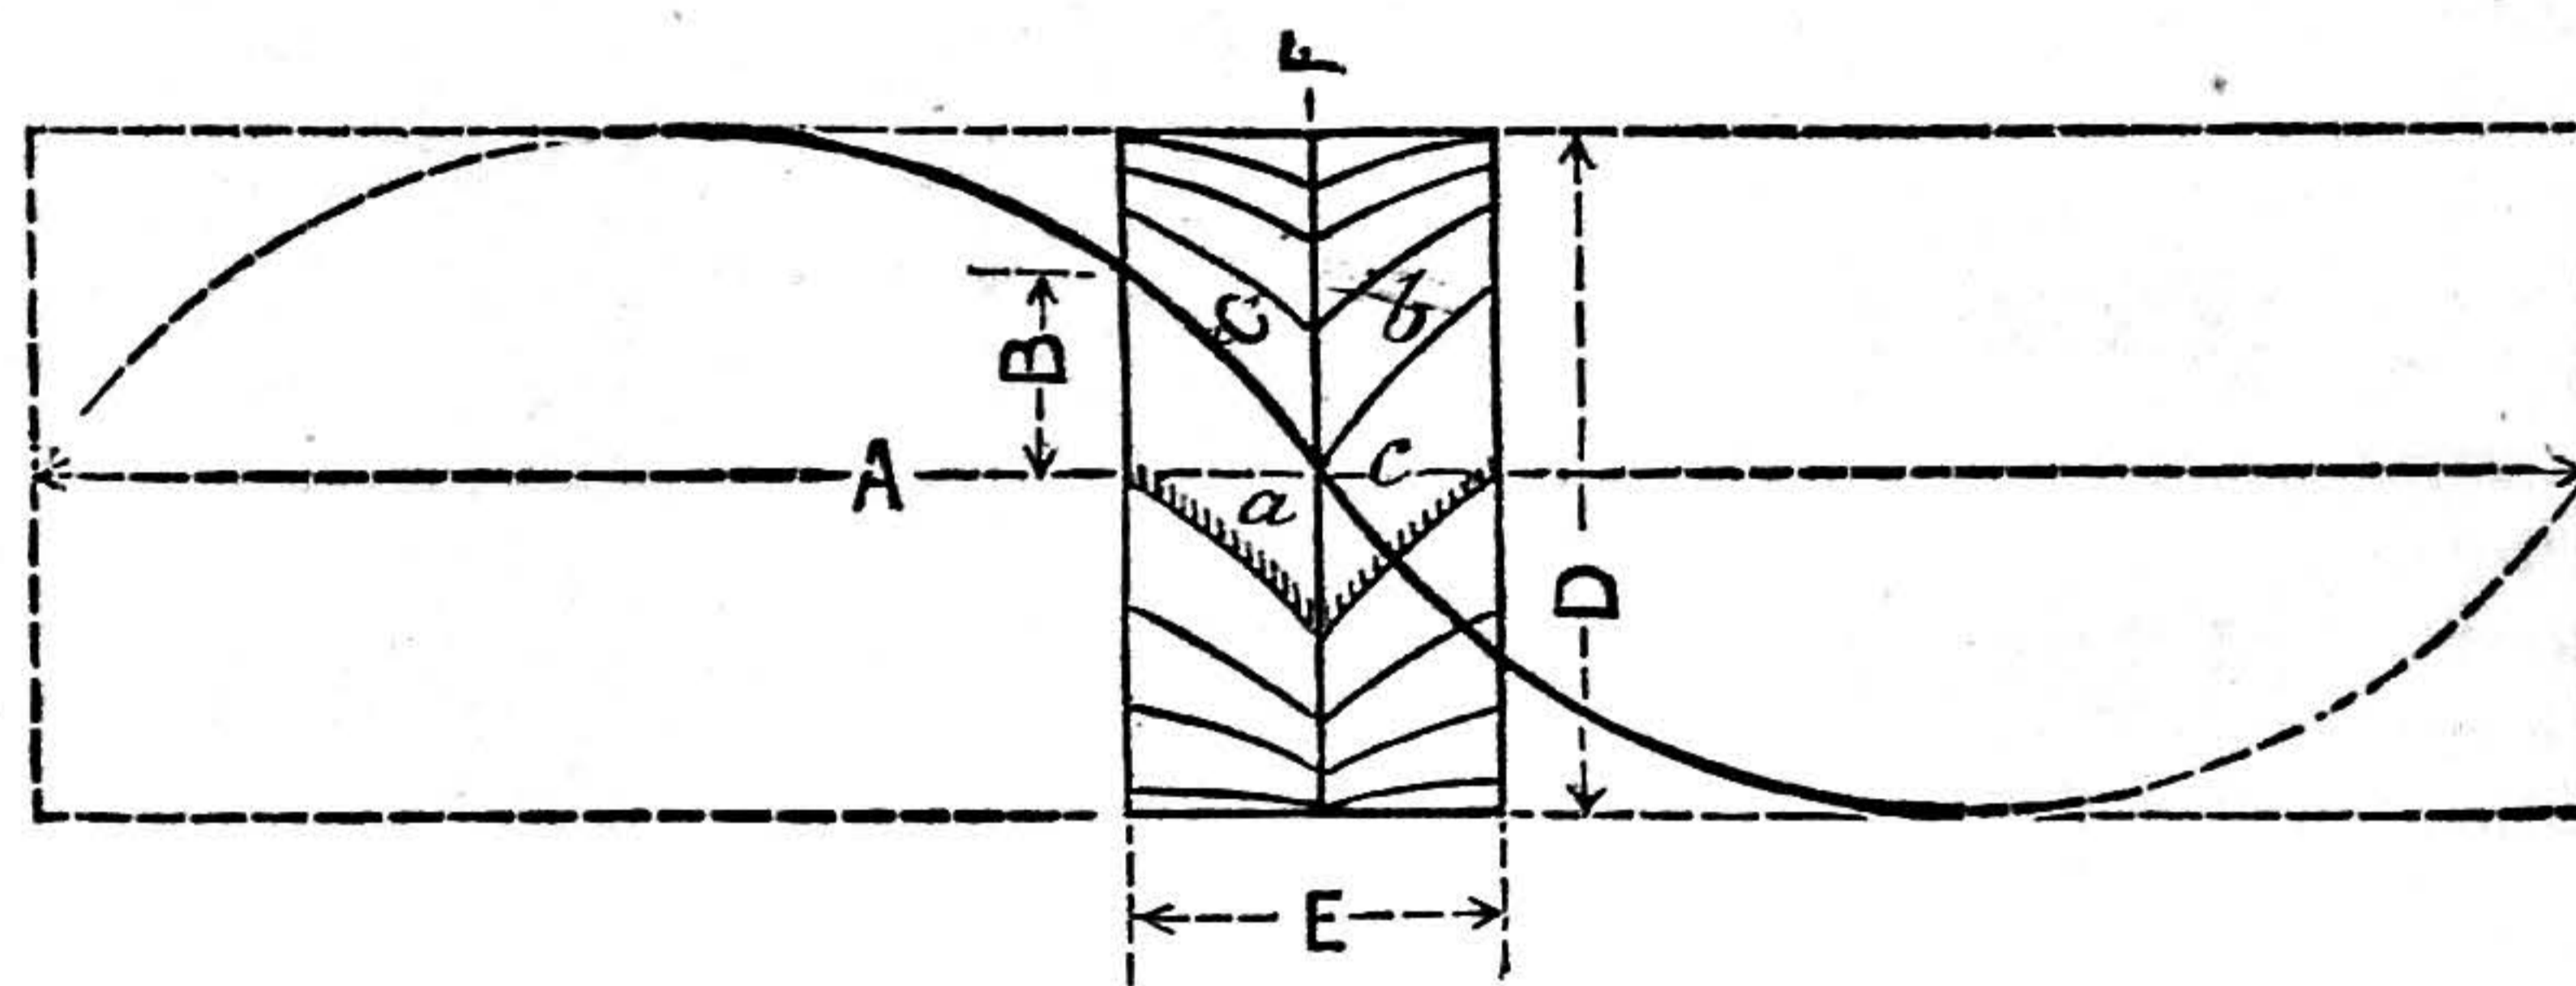
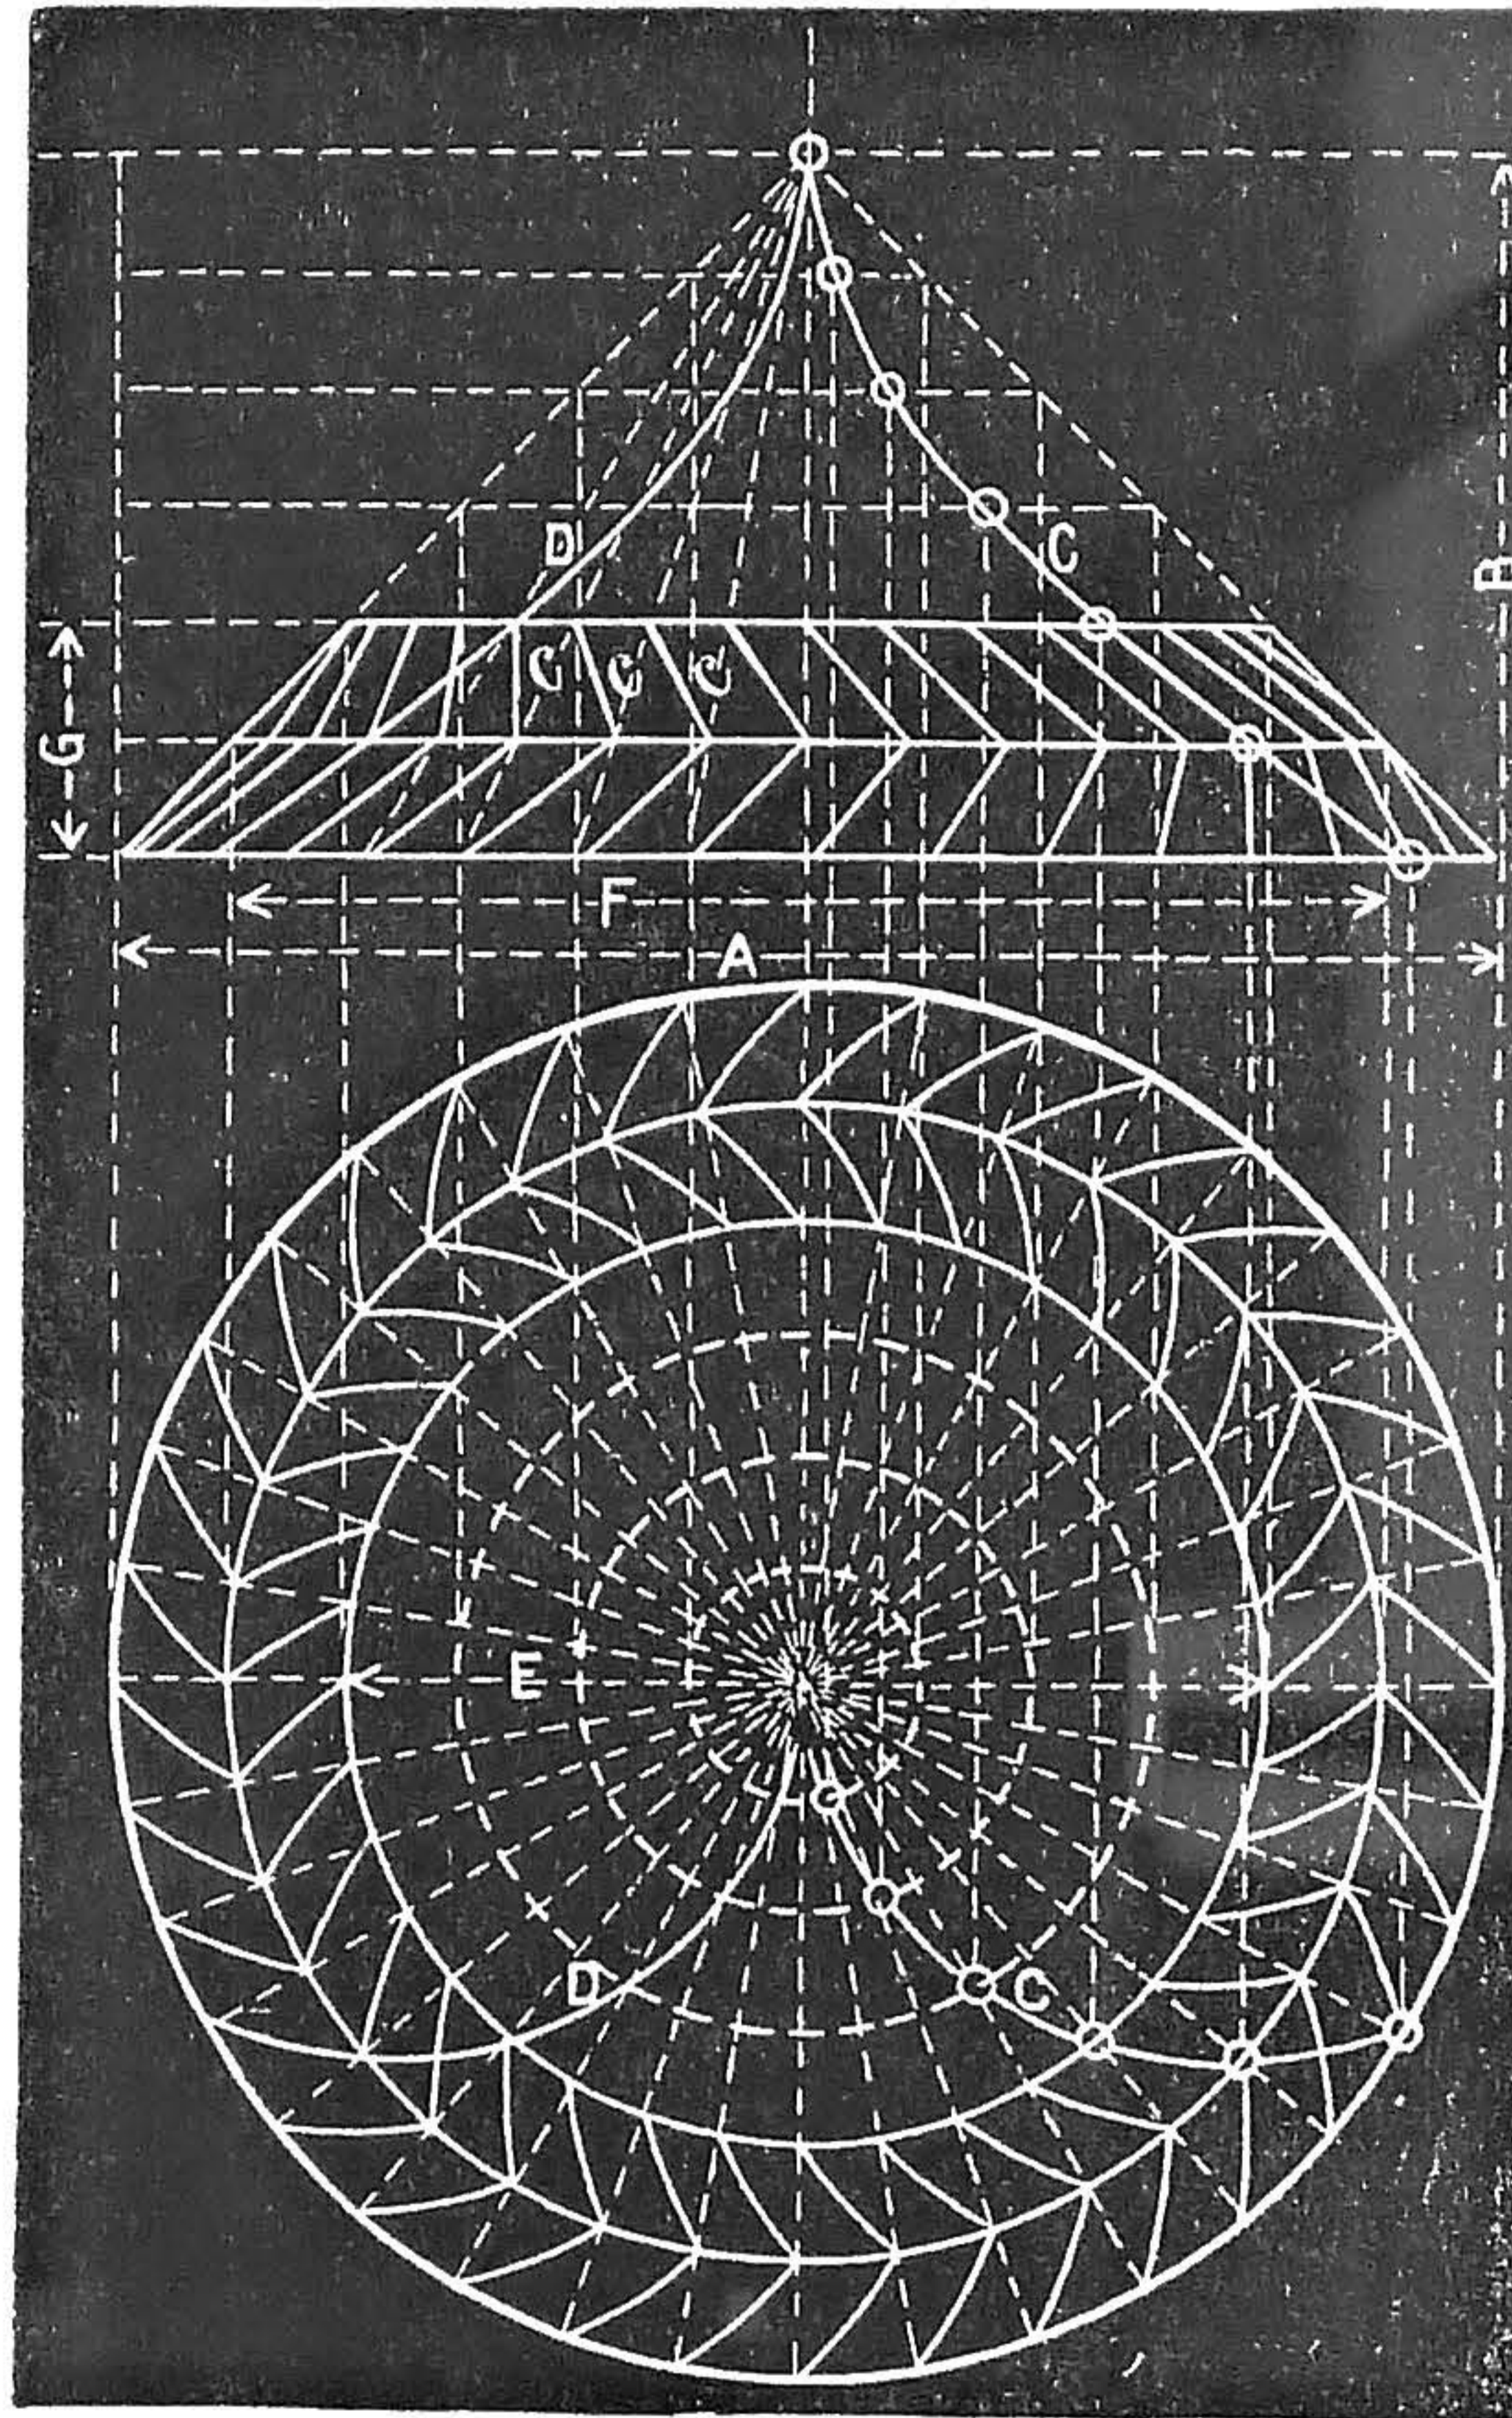

Fig. 1.—Diagram to illustrate the Relation of the Helical Tooth to the Screw.
Fig. 3
Those readers who desire a tent of the above description (see Fig. 1), and who have not got, and cannot readily purchase, an old gingham frame, can buy all the fittings through an umbrella maker at a very reasonable figure, and by following the method I shall now proceed to explain, can easily make the thing complete themselves. Those who are fortunate enough to have a frame by them need not trouble themselves with that part of the description relating to it.
**A Collapsible Tent.** Fig. 1.—The Tent complete. Fig. 2.—Notch. Fig. 3.—Runner. Fig. 4.—Elevation showing connections of Stretchers, Ribs, and Runners. Fig. 4A.—Plan of Runners, showing Stretchers connected and open. Fig. 5.—Plan of Notch and Ribs, also Ribs detached and opposite their respective Grooves. Fig. 6.—Elevation of Ribs shut and connected to Notch, with one Rib partly open. Fig. 7.—Plan of Roof. Fig. 8.—Width of Fabric, showing Method of cutting Segments. Fig. 9.—Finial. A, Thin Tube; B, Grooves for finishing off Wires; C, Stretchers; D, Ferrules; E, Wire securing Notch to Stick; F, Lappels.
*The Principle of the Helical Tooth.*—A helical tooth is, in principle, a very short section of a screw of very long axial pitch. By axial pitch is meant the total longitudinal distance traversed by a helix in making one complete revolution. Thus, in Fig. 1, A is the axial pitch. The parent of the helical tooth was the old stepped gear (Fig. 2), the invention of Dr. Hooke, which may be seen even now in the racks of many planing machines. The advantage of the stepped gear consists in this: that the sliding and rubbing of the teeth over one another which occurs in ordinary wheels during approach to, and recession from, the line joining the centres of the wheels, is greatly minimised; for the stepped teeth are in effect cut into short sections, and each section is set a little in advance of its fellow around the periphery of the wheel. The total rolling and sliding contact of a pair of ordinary teeth is, therefore, divided and apportioned equally between the number of slices into which the stepped teeth are divided, and are reduced exactly in that proportion. A given pair of stepped teeth, during their
*Definitions.*—In Fig. 1, A is axial pitch, B circumferential pitch, and C normal pitch; B is the only pitch which is required to be known; D will represent the pitch diameter of the wheel, and E its breadth; F is its middle plane. We have, therefore, single helical teeth, a, b, to right and left of F, each tooth forming a short portion of a long helix of axial pitch A, developed on a cylinder of diameter D.
*Method of Contact.*—In the teeth of a pair of such wheels gearing together, mutual contact continually occurs exactly upon the line of centres passing through the wheels. The path of contact travels across the wheels from side to side, as at A (Fig. 1). For an instant, and only for an instant, each successive section of a pair of teeth is in gear, and the total action is the same, and as devoid of injurious rubbing and sliding as that of two smooth screw threads rolling in contact.
*Development of a Helix upon a Cone.*—Fig. 3 represents the development of a helix upon a cone. The base, A, of the cone, and the height, B, are divided out as shown, and right and left-handed helical curves, C, D, drawn through successive points of intersection. Substitute teeth for these curves, and we have a helical bevel wheel, in which A is the major pitch diameter, E the minor, F the middle plane, and G the breadth of rim. A little examination of the figure will render the relationship of the lines clear. A number of horizontal lines are omitted in the elevation of the cone.
ance. If it is too little in amount, one pair of teeth will be quitting gear before the succeeding pair touch each other, and the action will be jerky; if it is too much, there will be prolonged contact of the first pair during the early portion of the engagement of the second, with consequent undue friction and liability to fracture. The slope of the teeth is, therefore, settled, not with reference to axial pitch, but with reference to the circumferential pitch (Fig. 1, B) and the width of the wheel—the condition being that the engagement of one pair of teeth shall terminate simultaneously with the commencement of the engagement of the next pair. This relation is shown in Figs. 1 and 3 by the lines c in each figure touching the apex and the base of contiguous teeth. Hence the coarser the pitch and the narrower the wheel, the greater will be the slope of the teeth, and *vice versa*. The slope will vary in different wheels by as much as 40 or 50 degrees.